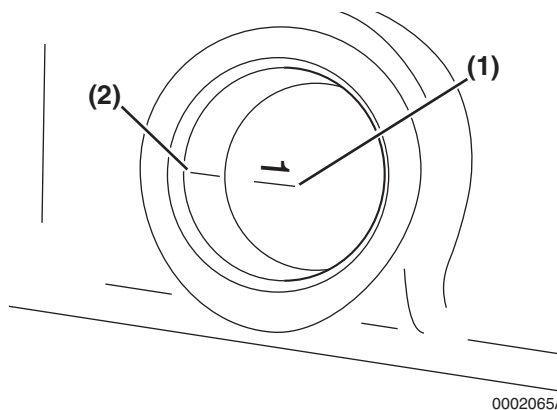
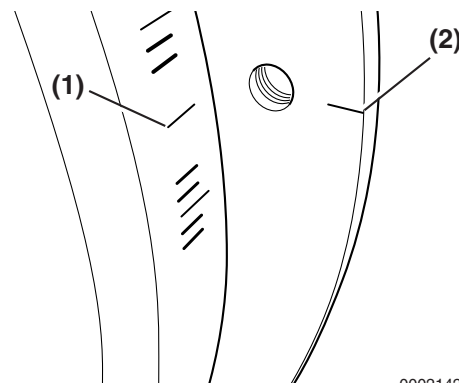
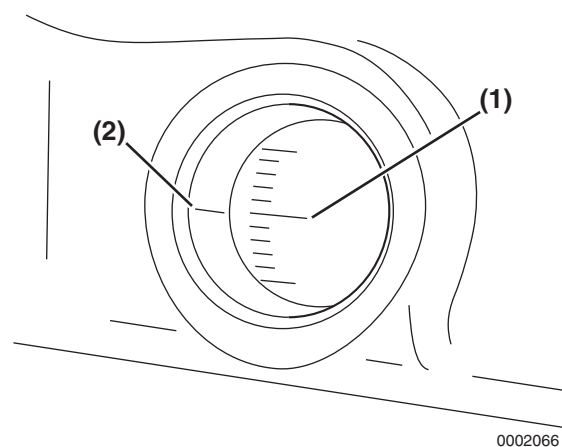

Figure 7-25
Figure 7-26
Figure 7-27
9. Highlight the timing reference mark on the flywheel housing (Figure 7-25, (2)) or engine back plate (Figure 7-26, (2)). Highlight the TDC (Top Dead Center) mark (Figure 7-25, (1)), (Figure 7-26, (1)) on the flywheel.
10. Highlight the target timing mark (Figure 7-26, (1)), (Figure 7-27, (1)) on the flywheel timing grid as determined in the Fuel Injection Timing Chart below.
18. Check the position of the flywheel target timing mark (**Figure 7-27, (1)**) on the flywheel grid in relation to the timing reference mark (**Figure 7-27, (2)**) on the flywheel housing or back plate. If the two marks are aligned, the fuel injection timing is correct. If the marks do not align, the fuel injection timing must be adjusted. See *Adjusting Fuel Injection Timing on page 7-23*.